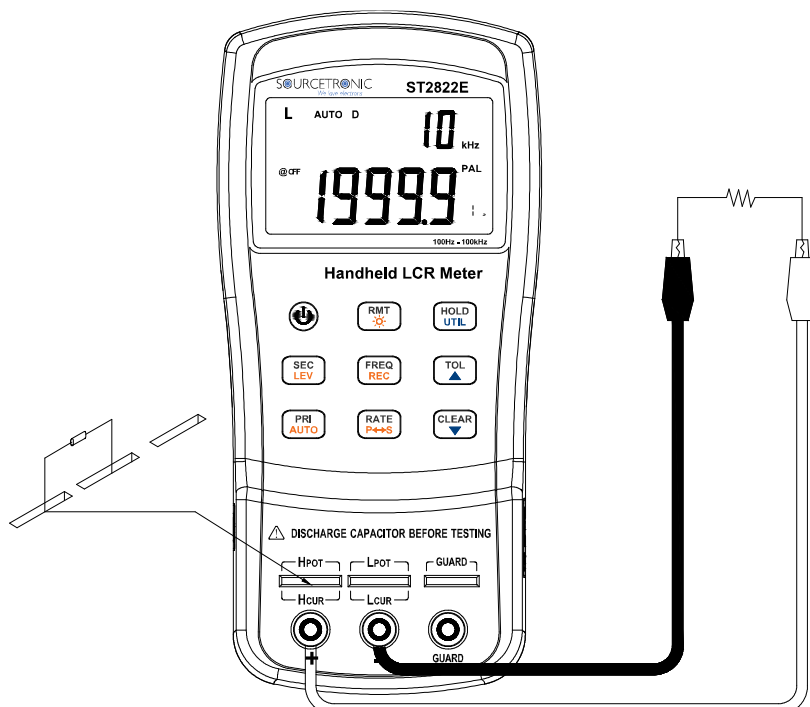
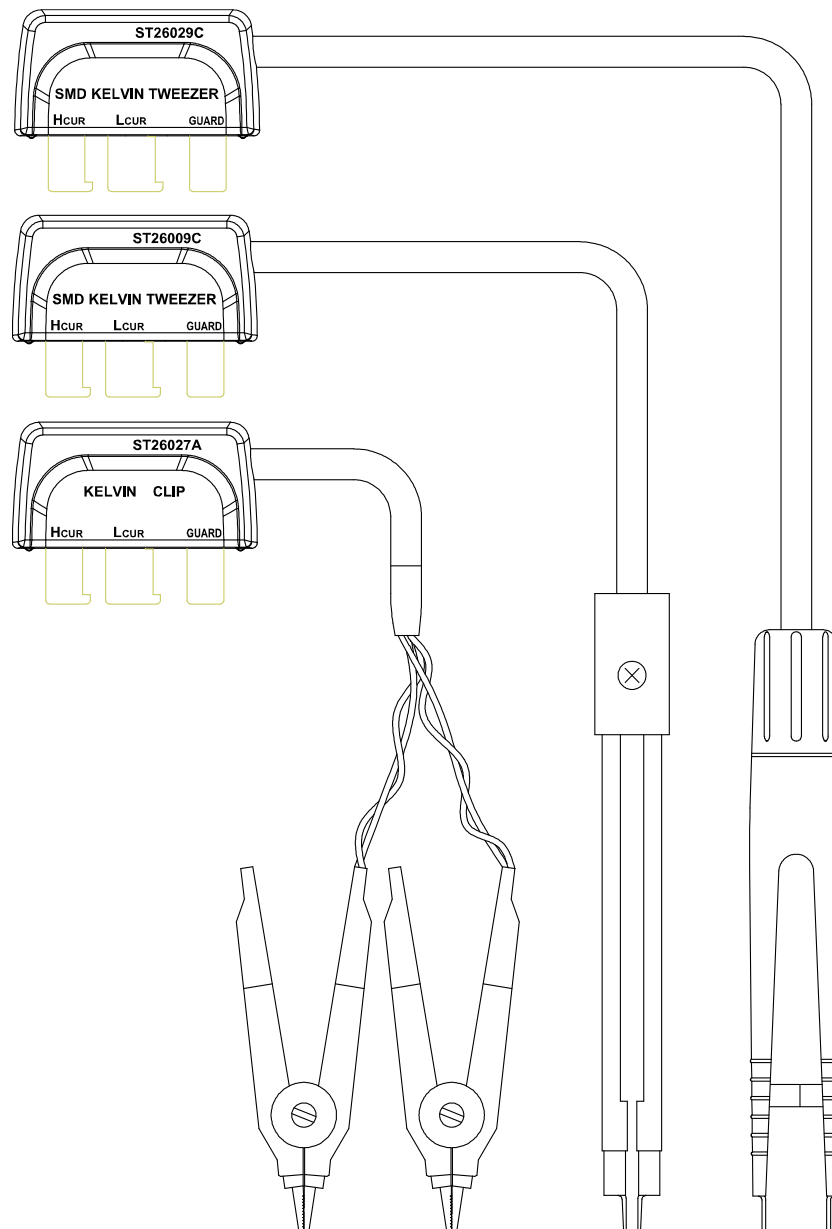
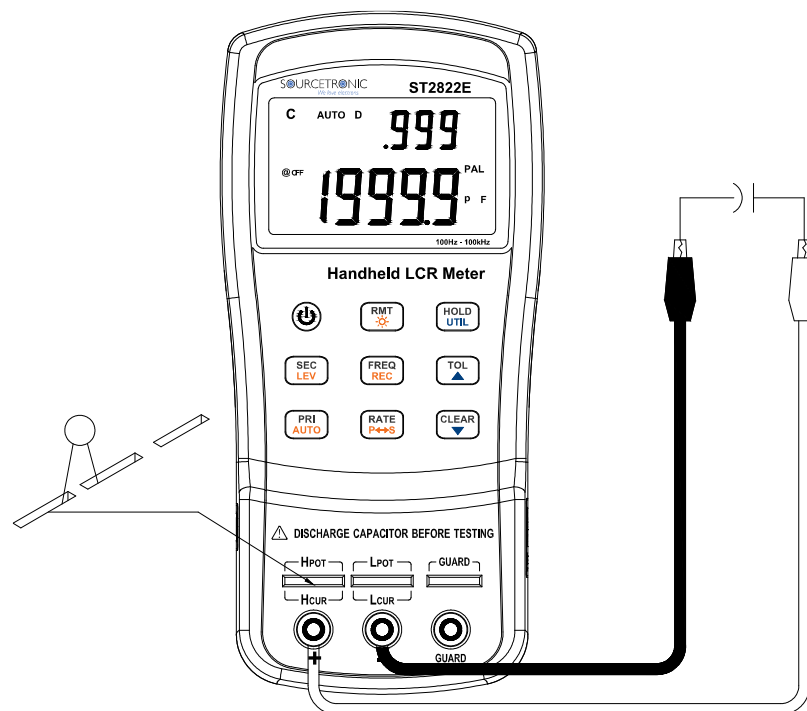
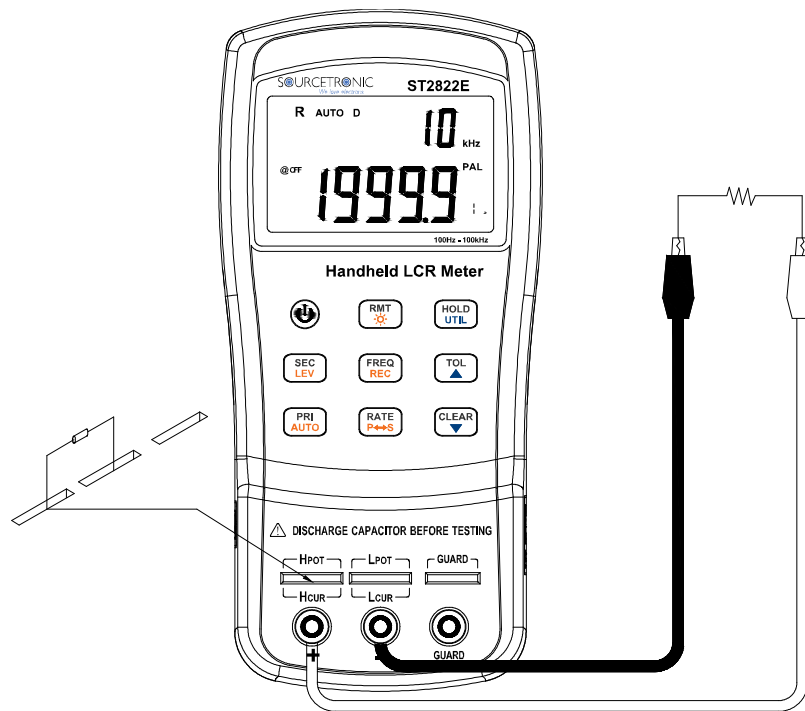

Figure 6-1 Inductance Measurement
Figure 6-2 4-Terminal Test Accessories
Figure 6-3 Capacitance Measurement
Figure 6-4 Resistance Measurement
- 3) Insert an inductor into test slots or connect a tested inductor through a proper test accessory (e.g., banana plug-crocodile clip test leads, test fixture or SMD test tweezers). See Figure 6-1 below. Figure 6-2 shows the optional 4-terminal test accessories.
- 3) Insert a capacitor into test slots or connect a tested capacitor through a proper test accessory (e.g., banana plug-crocodile clip test leads, test fixture or SMD test tweezers). See Figure 6-3 below. Figure 6-2 shows the optional 4-terminal test accessories.
- 3) Insert a resistor into test slots or connect a tested resistor through a proper test accessory (e.g., banana plug-crocodile clip test leads, test fixture or SMD test tweezers). See Figure 6-4 below. Figure 6-2 shows the optional 4-terminal test accessories.